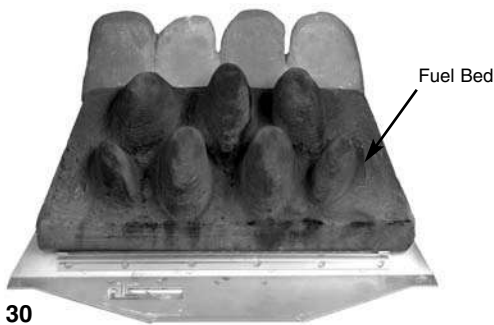

Fig. 30
2. Place the main fuel bed on to the middle section of the metal burner tray. It is important that the front edge of the fuel bed is located behind the burner strip (Fig. 30).